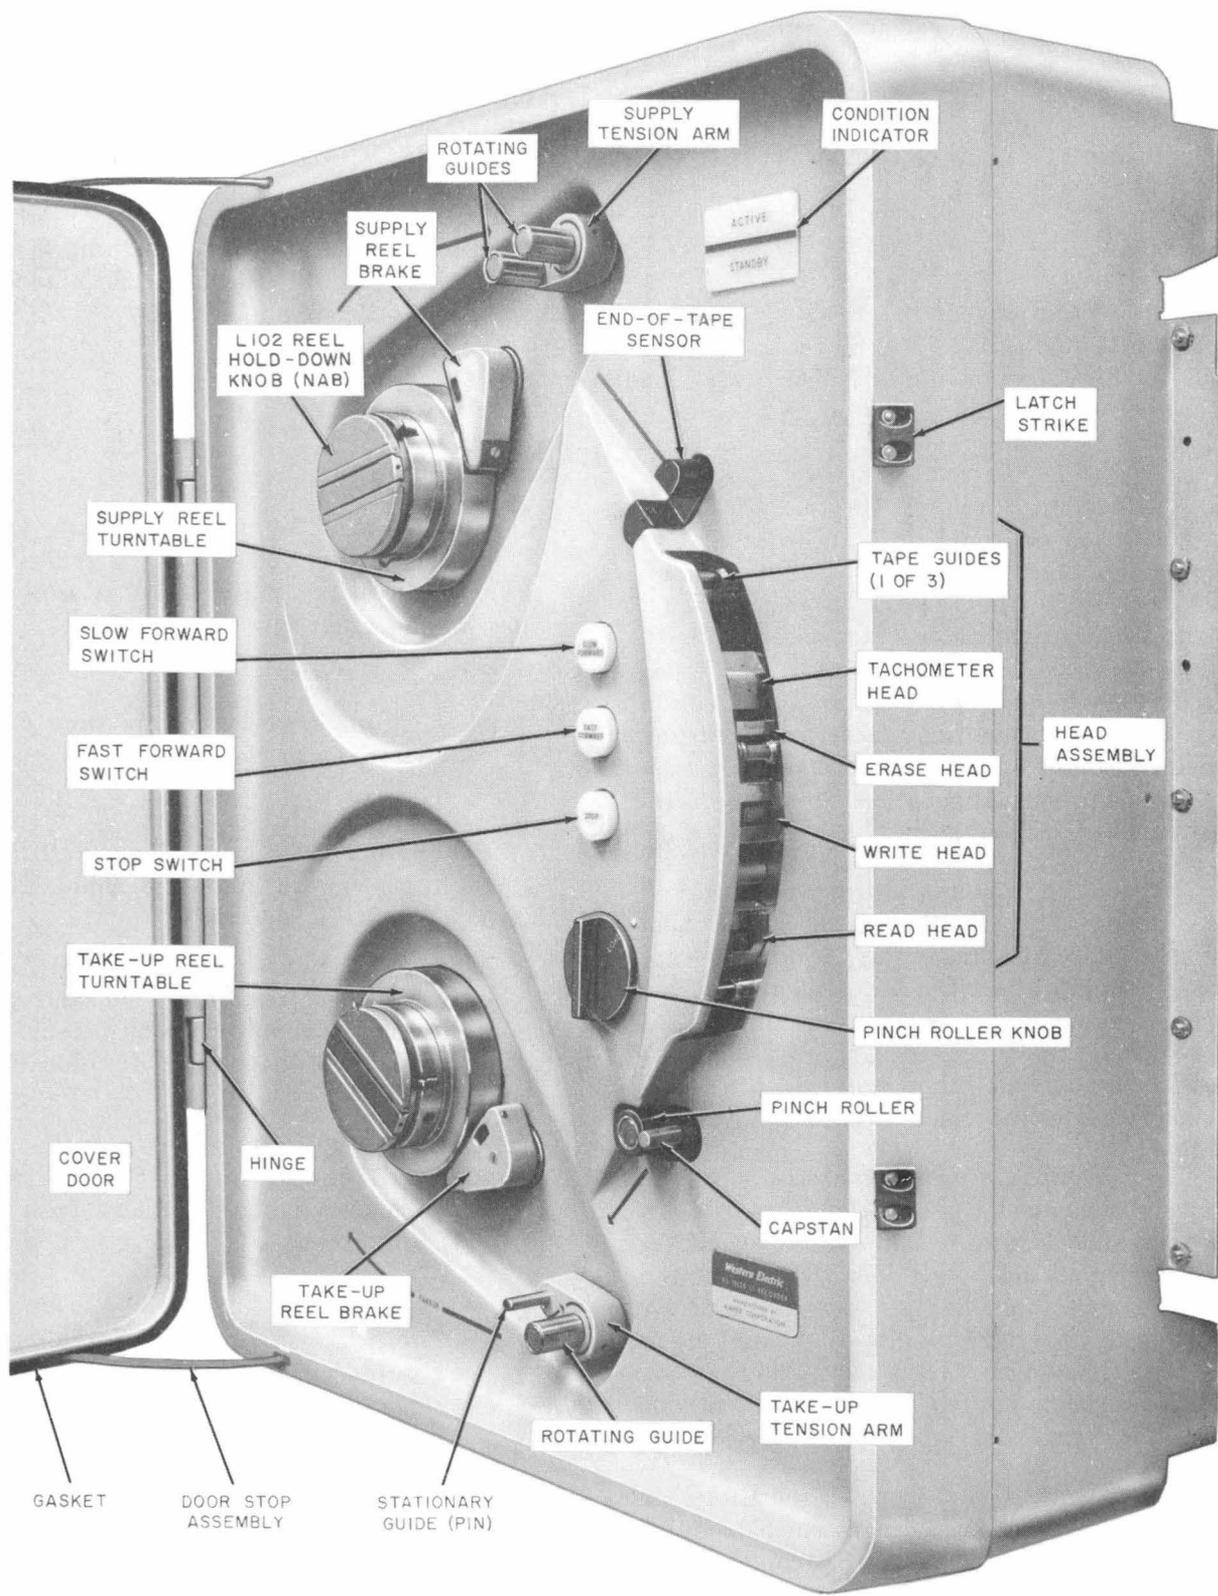
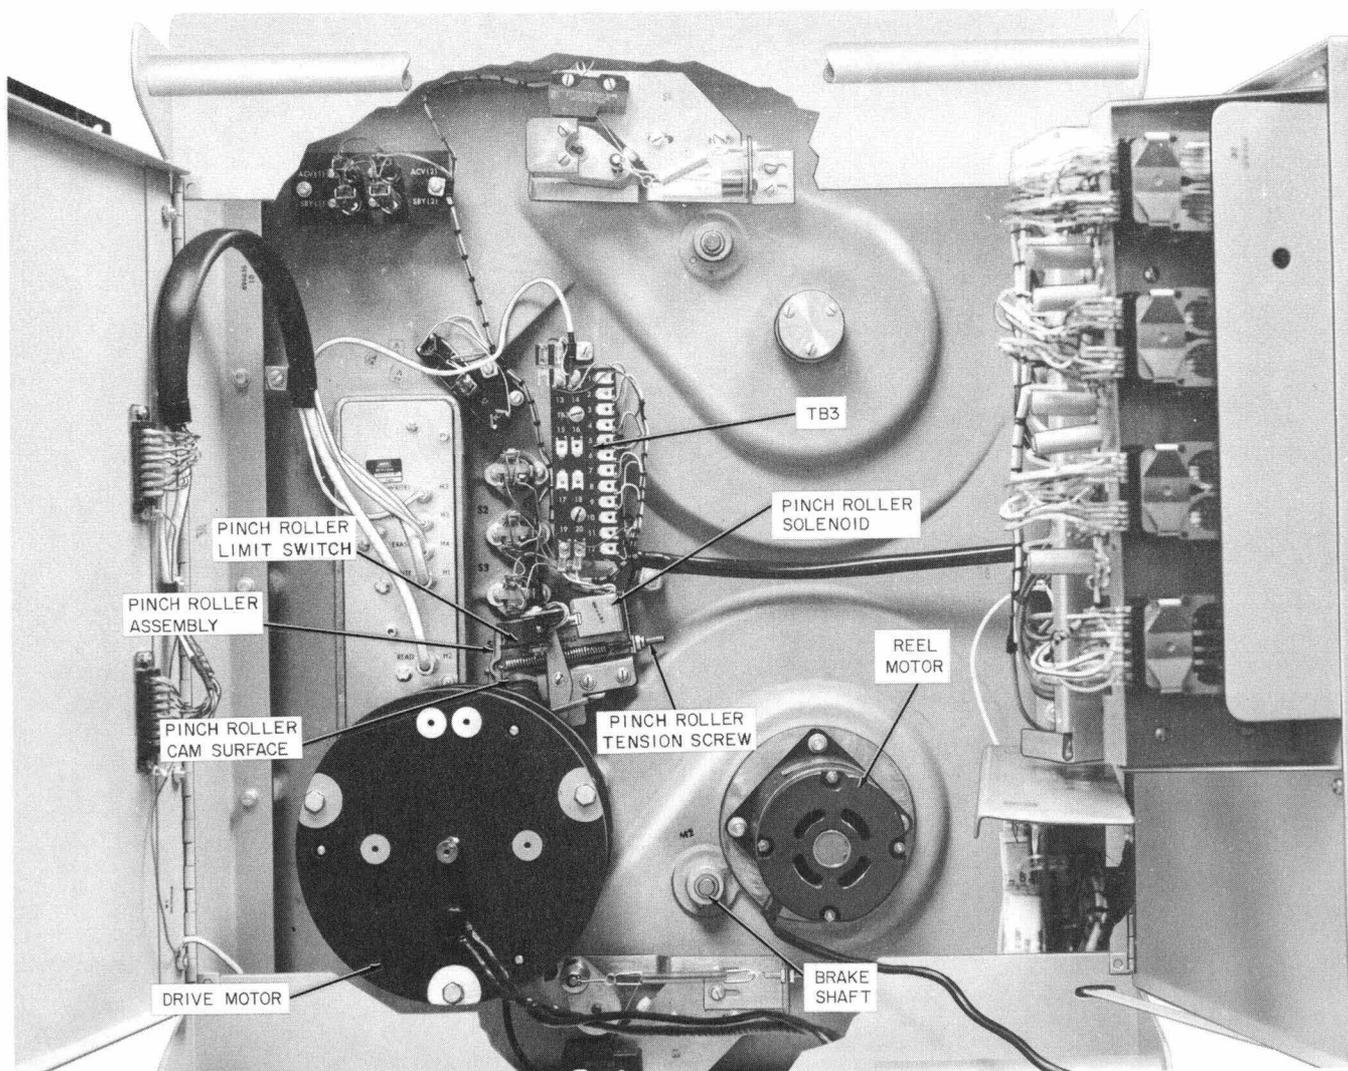

Fig. 1 — KS-19125, List 1 Recorder — Front View
Fig. 5 — KS-19125, List 1 Recorder — Rear View
1.01 This section covers the KS-19125, List 1 (Fig. 1) and List 2 (Fig. 2) recorders used initially for digital recording of AMA data in the No. 1 Electronic Switching System Master Control Center.
(a) **Tape Path:** The magnetic heads (Fig. 1 or 2), rotating and stationary guides, pinch roller, and capstan shall be *free of tape oxide, dust, and all other foreign material.*
(a) **Rotating Guides and Pinch Roller:** The rotating guides on the tension arms (Fig. 1 or 2) and the pinch roller contain ball bearings
(b) **Motors:** The drive motor (Fig. 5 or 6) and the reel motor contain ball bearings which require no lubrication service.
(c) **Pinch Roller Knob and Pinch Roller Assembly:** The cam surface of the pinch roller knob (Fig. 5 or 6) which rubs against the pinch roller assembly requires a small amount of No. 6 Dow compound lubricant periodically.
(d) **Hinges:** The front cover door hinge (Fig. 1 or 2), the rear door hinges (Fig. 7), and the relay inspection panel hinge require oiling at intervals to prevent wear and squeaks. Any excess oil should be removed immediately to prevent spotting of equipment finish.
(e) **Latches and Door Stops:** The latch strikes (Fig. 1 or 2) and door stop assemblies use materials which require no lubrication.
2.03 Demagnetization: The head assembly (Fig. 1 or 2) is demagnetized by the manufacturer and should require no further attention.
2.10 Head Assembly: The four magnetic heads of the assembly (Fig. 1 or 2) are aligned by the manufacturer and require no adjustment. Defective or excessively worn heads can cause unsatisfactory operation of the equipment. The tape guides shall keep the tape centered between the conical sections and shall not be worn so as to allow the tape to ride up on the conical sections.
2.11 Pinch Roller and Limit Switch: The pinch roller (Fig. 1 or 2) shall produce a force of 15 pounds ± 0.5 pound against the capstan with pinch roller knob in the RUN position. The pinch roller limit switch (Fig. 5 or 6) shall operate when the knob is positioned to RUN and shall release when the knob is positioned to LOAD.
2.12 Pinch Roller Solenoid: The pinch roller solenoid (Fig. 5 or 6) shall operate smoothly and produce positive locking of the pinch roller knob in the RUN position during remote control of equipment.
2.13 FAST FORWARD, SLOW FORWARD, and STOP Switches: The local control switches shall operate smoothly and cause the correct equipment response. The SLOW FORWARD switch (Fig. 1 or 2) shall cause the tape to be driven at 5 to 5.5 inches per second (ips). The FAST FORWARD switch shall cause the tape to
2.14 End-of-Tape Sensor: The end-of-tape sensor (Fig. 1 or 2) shall produce the correct resistance values for normal tape, tape with no oxide, illuminated sensor lamp, and burned-out sensor lamp. For light hitting the photocell, resistance is 100 to 600 ohms. For no light hitting the cell, resistance is greater than 50,000 ohms.
2.15 Drive Motor and Capstan: The drive motor (Fig. 5 or 6) with its shaft machined as the capstan has one winding which drives the tape at 5 to 5.5 ips and a second winding that drives the tape at 27 to 33 ips. When stopping the tape, the 5-ips winding is used as a dc brake that stops the tape within 0.1 second from the slow forward speed.
2.16 Reel Motor: The reel motor (Fig. 5 or 6) drives the take-up reel turntable directly. The drive shall be such as to provide uniform take-up of the tape without delay on take-up and without breaking or unduly stretching tape on stop.
2.17 Condition Indicator: Both lamps of the STANDBY section of the condition indicator (Fig. 1 or 2) shall illuminate during standby condition as determined by the remote equipment. Both lamps of the ACTIVE section of the condition indicator shall illuminate during active condition. In manual control for local operation, neither section shall be illuminated.
2.18 Front Cover Door: The gasket of the front cover door (Fig. 1 or 2) shall be in contact with the recorder casting at all points when the door is fully latched.
- (1) **Pinch Roller Knob and Pinch Roller Assembly:** Position the pinch roller knob to LOAD position. Using a KS-6320 orange stick, apply a small amount of No. 6 Dow compound lubricant to the cam surface on the rear section of the pinch roller knob at the point where it contacts the pinch roller assembly (Fig. 5 or 6). Operate the pinch roller knob between the LOAD and RUN positions several times to spread the lubricant.